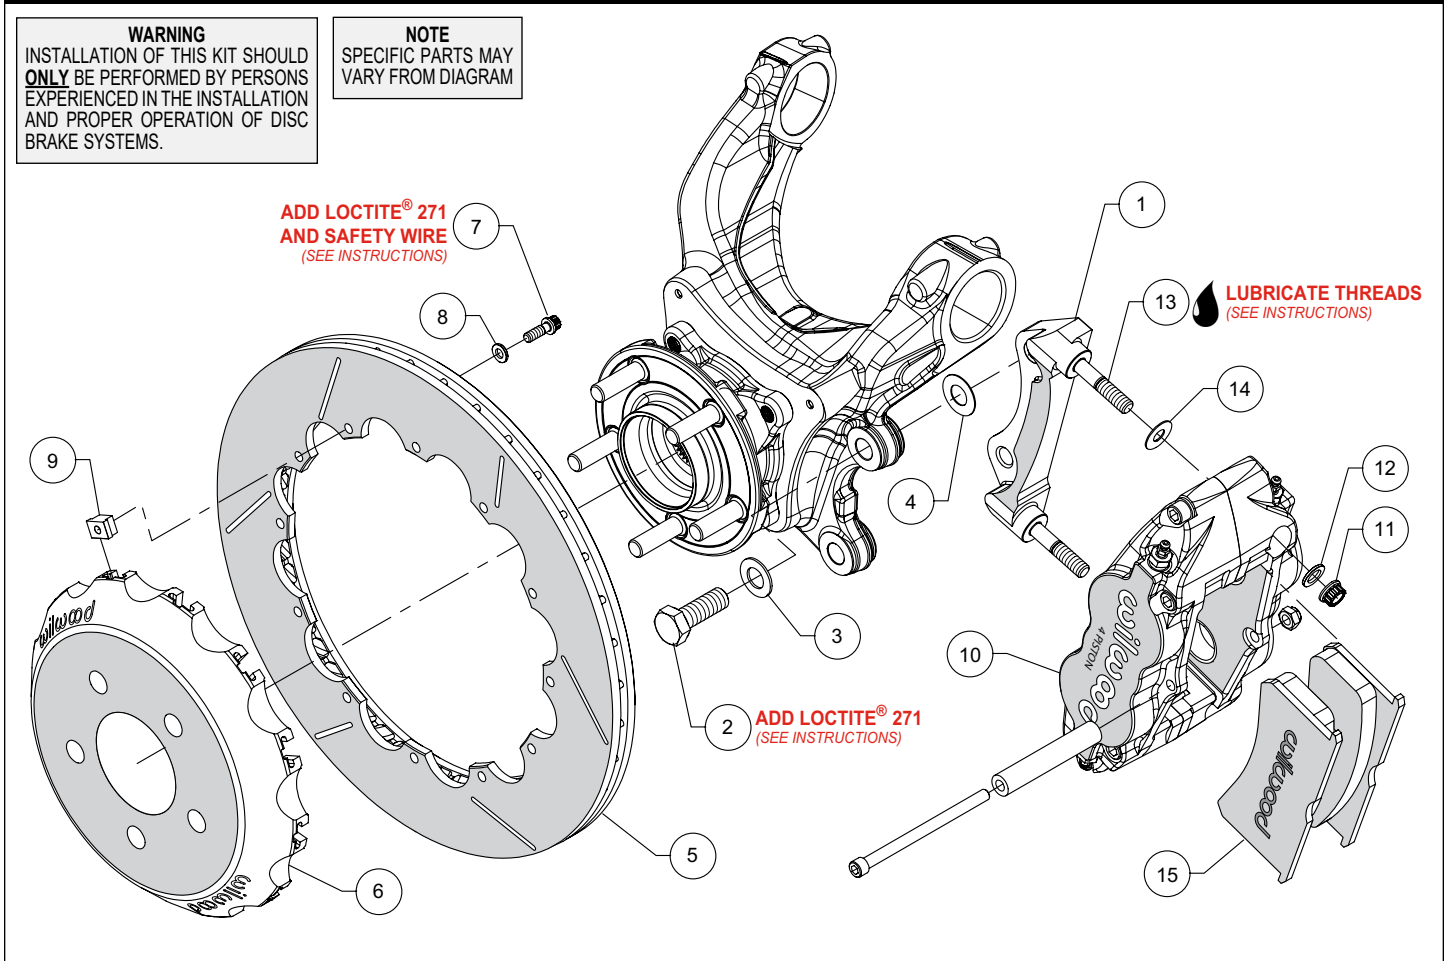
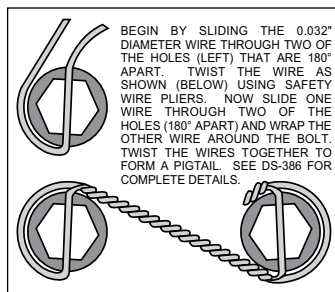

Figure 1. Typical Installation Configuration
Figure 3. Safety Wire Diagram
NOTE: Numbers in parenthesis refer to the parts list and Figure 1 on the preceding pages.
- The caliper mount bracket (1) should initially be installed with clean, dry threads on the mounting bolts. Orient the bracket as shown in Figure 1, and Photo 1, and install using bolts (2) and washers (3). Initially place one .029" thick shim (4) on each bolt between the bracket and upright, Figure 1. Temporarily tighten the mounting bolts. **NOTE:** The bracket must fit squarely against the mount bosses on the upright. Inspect for interference from casting irregularities, machining ridges, burrs, etc. Later, after the caliper alignment has been checked, the mount bolts will be secured using red *Loctite*® 271.
- Orient the rotor (5) and the hat (6) as shown in Figure 1 and Photo 2. Attach rotor to hat using bolts (7), washers (8), and t-nuts (9). Follow additional instructions included with the bolt kit. Apply red *Loctite*® 271 to the bolt threads and torque to 120 in-lb using a criss-cross pattern. Safety wire bolts using standard 0.032 inch diameter stainless steel safety wire as shown in Figure 3. Please refer to Wilwood's data sheet DS-386 (available at www.wilwood.com/Pdf/DataSheets/ds386.pdf) for complete safety wire installation instructions.
- Lubricate the caliper mounting studs (13) with lightweight oil. Initially place one .035" thick shim (14) on each stud as shown in Figure 1 and Photo 3. Mount the caliper (10) onto the bracket (1) using lock nuts (11) and washers (12), Figure 1. Temporarily tighten the lock nuts and view the rotor through the top opening of the caliper. The rotor should be centered in the caliper, Photo 4. If not, adjust by adding or subtracting shims (4) between the bracket and the upright. Once the caliper alignment is correct, remove the bracket mounting bolts one at a time, apply red *Loctite*® 271 to the threads, and torque to 77 ft-lbs..